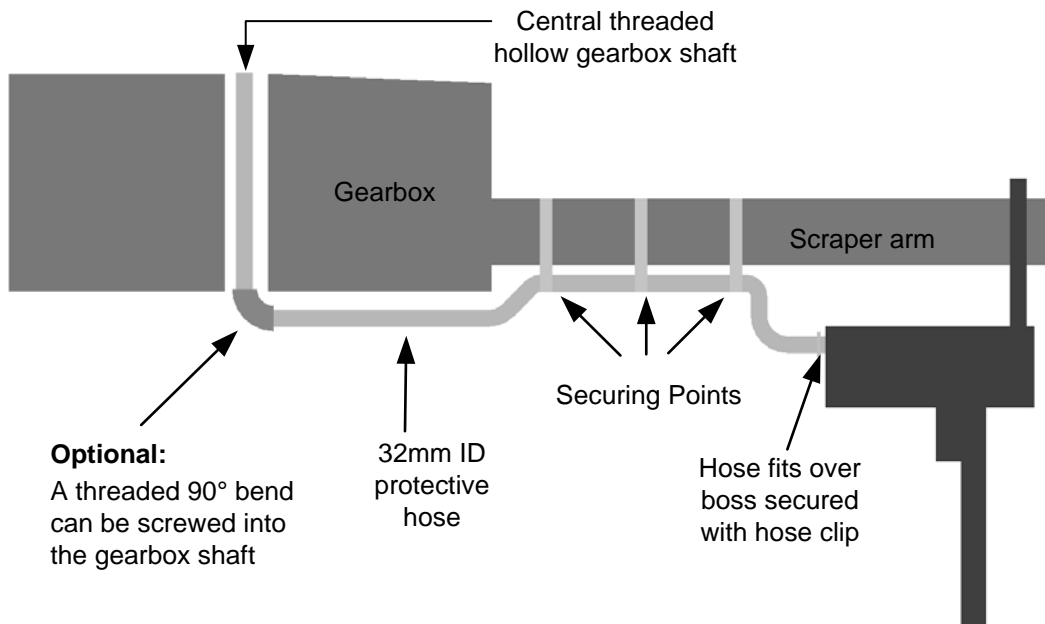

Figure 21: Fitting the cable with good clearance
- Metal straps to be welded or bolted as appropriate to provide securing points for the rubber hose and cable. Suggested details in Figure 21.